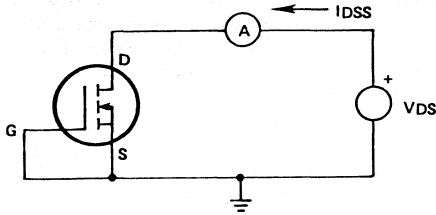

Figure 5. N-Channel I_{DSS} Measurement
- C. I_{DSS} – The zero gate voltage drain current or offstate leakage current. It is determined by applying specified voltage from drain to source (with gate shorted to source) and measuring the resulting current. (See Figure 5 for the measurement circuit.)